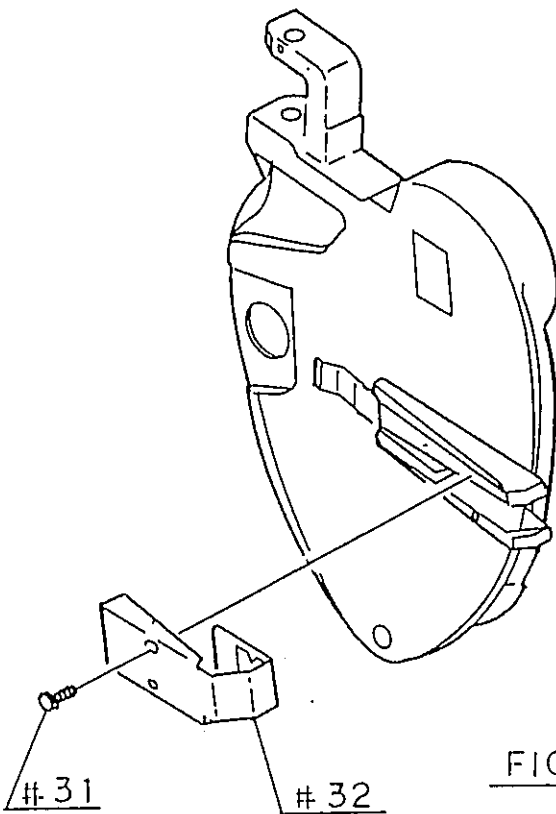

FIG. 8
(Fig. 8)
4) Apply grease (X-1) to parts #37 through #40. (See Fig. 8)